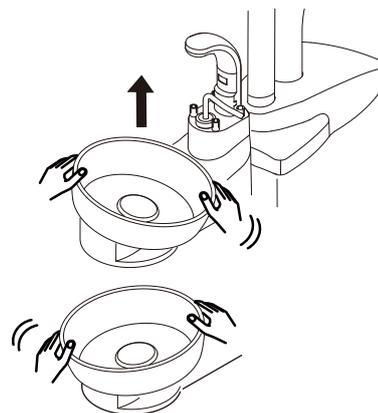

Fig.5-2 Remove the Cuspidor Bowl
B. Turn the cuspidor bowl to left and right and remove it upward. (Fig.5-2)